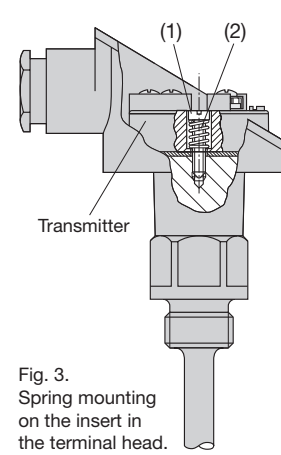

Fig. 3. Spring mounting on the insert in the terminal head.
two cheese-headed screws (1) and two springs (2) (see Fig. 3). Connect the leads acc. to section "7. Electrical connections".